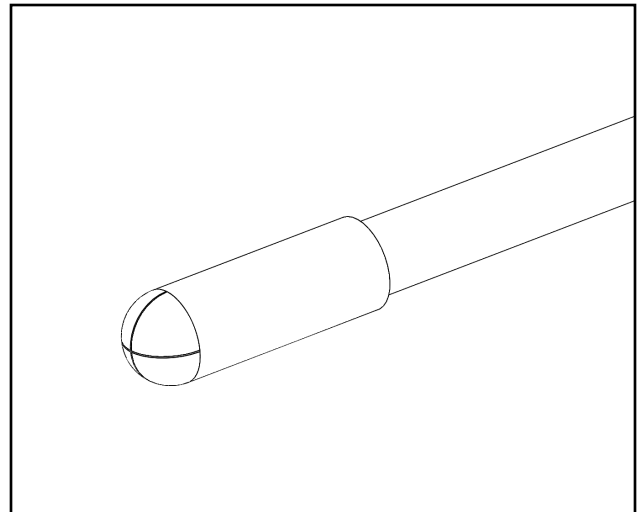

Fig. 19.3 Tube Cap
**19.3** Install the slitted-rubber Tube Caps supplied in the alternator kit on the lower end of the two drain tubes by sliding on. See fig 19.3.